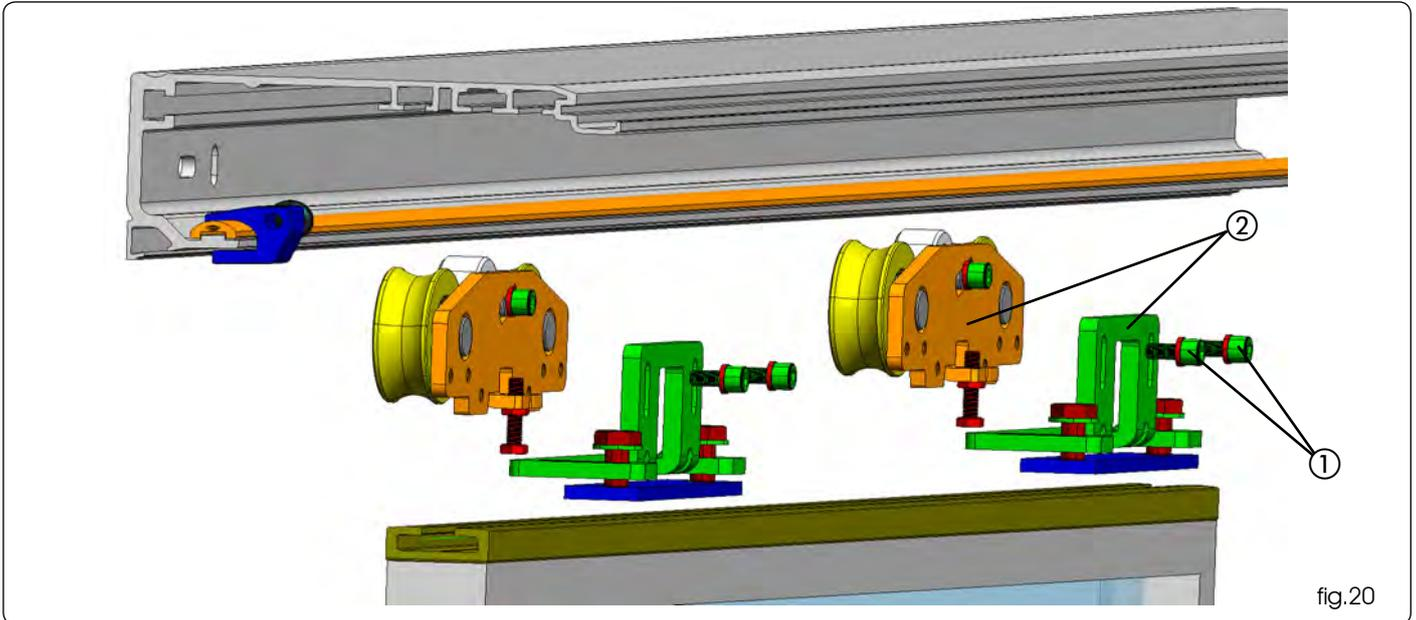

fig.20
Disassemble the carriage by withdrawing the upper and lower plate of the carriage fig.20 ref. ②
and removing the 2 fastening screws M6 fig.20 ref. ①.